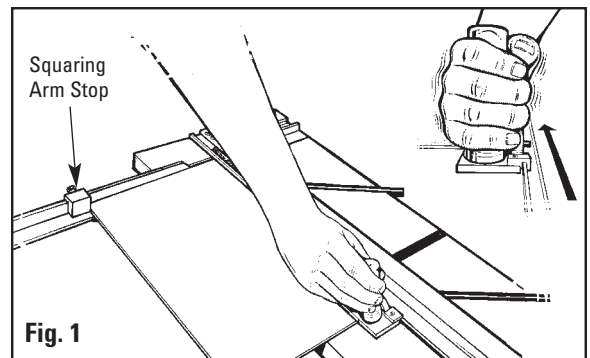

Fig. 1
4. Hook the Straight Cutting Head onto the Guide Rail past the end of the board to be cut. Grasp the handle as shown in the picture and pull the Straight Cutting head towards you. Keep constant downward pressure on the Straight Cutting Head and the Guide Rail as you make your cut. **Fig. 1**
1. Set the Mat Guide to the desired border width. For example, for a 2" border, align the front of the Mat Guide at the 2" mark and tighten the Black Knobs. **Fig. 1**